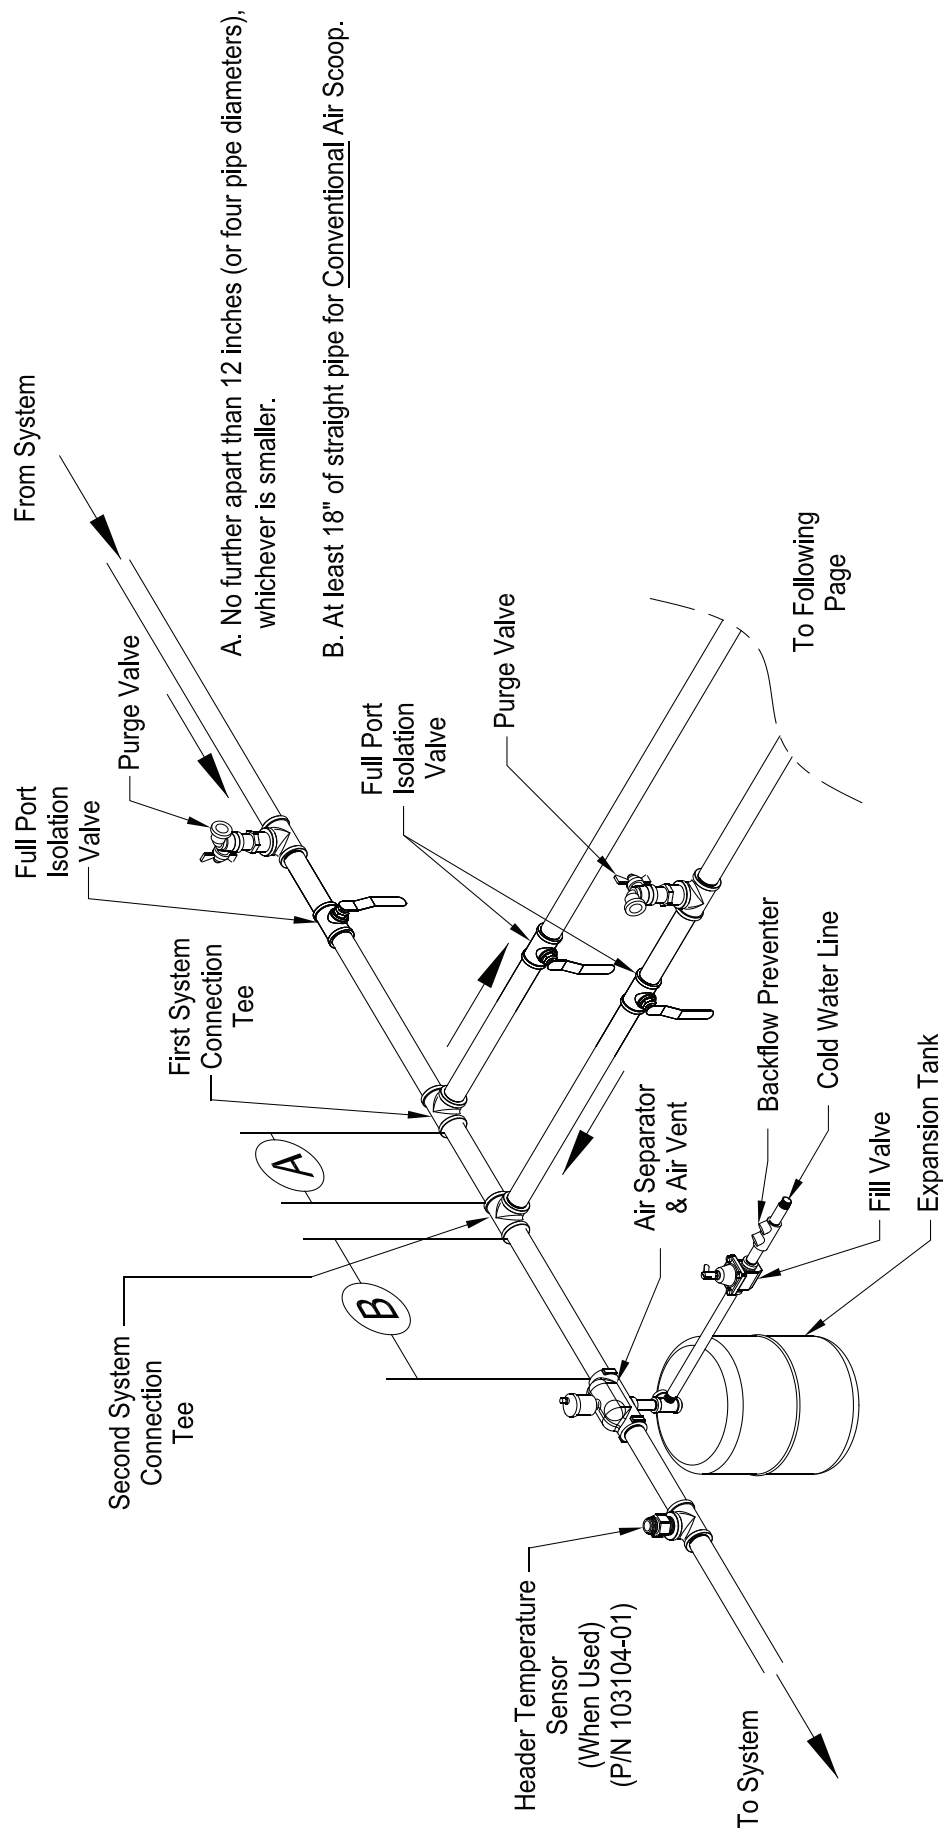

Figure 25A: Alternate Multiple Boiler Water Piping w/Indirect Domestic Hot Water Heater (Page 1 of 2)
- a. When Alliance SL™ model coil flow rate, required to achieve water heater rating, **falls within the specified flow range** for Alpine boiler model, the Alliance SL™ model **can be piped as part of Alpine near-boiler piping**. Refer to Table 16 and Figures 25A and 25B.